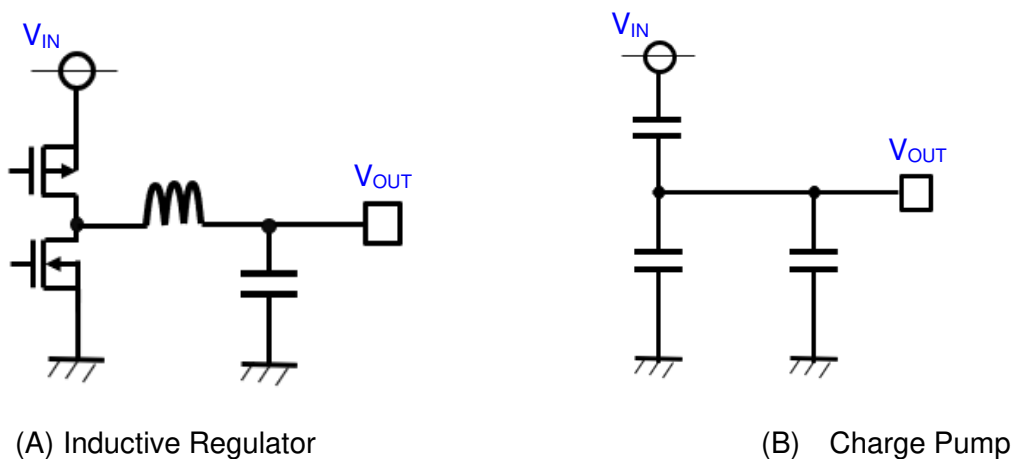

Figure 30. Inductive Regulator and Charge Pump
Figure 30(A) shows an inductive regulator called a buck converter. There is an inductor between switching node to V_{OUT} , so it would be prevented transient change of current when a hard short happened.
For Figure 30(B), it would be high di/dt condition with a hard short because MYC0409-NA does not have a large inductor but has low impedance of power FETs. In general, inductance would be reduced the current slope of inductor and impedance of power FETs would be reduced peak current. Therefore, “Hard Short Circuit Condition” is written as bellow.